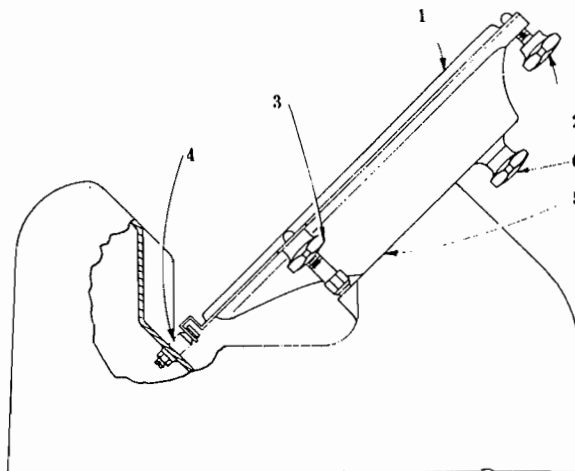

FIG. 3
- 6.2.5 Loosen the two retaining knobs (2 & 3, Fig. 3), rotate the front knife guard (1, Fig. 3) clockwise to clear slots at the screw heads and unhook from the stud (4, Fig. 3). Lift off guard.
- 6.2.6 After front guard is removed, the back guard (5, Fig. 3) can then be dis-assembled by unscrewing the knob (6, Fig. 3).
- 6.2.10 Re-assemble the back knife guard, then the front knife guard. In replacing the front knife guard, first hook the bottom clip over the necked diameter of the stud (4, Fig. 3), then drop the guard over the two round-nosed securing screws. This guard has been so designed, that if this procedure is followed, the knife will not be damaged.